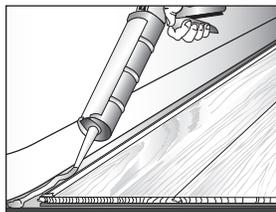

Figure 20
- All perimeter expansion zones must be completely filled with 100% silicone caulk following the manufacturer's recommendations. When applying caulk, it is helpful to first apply a strip of painter's tape (3M Scotch-Blue™ 2080 Tape) parallel to and approximately 1/32” (.79 mm) from the edge of the hardwood (Fig. 20). Then fill the expansion zone with caulk, remove the excess with a plastic scraper or putty knife and remove the tape.